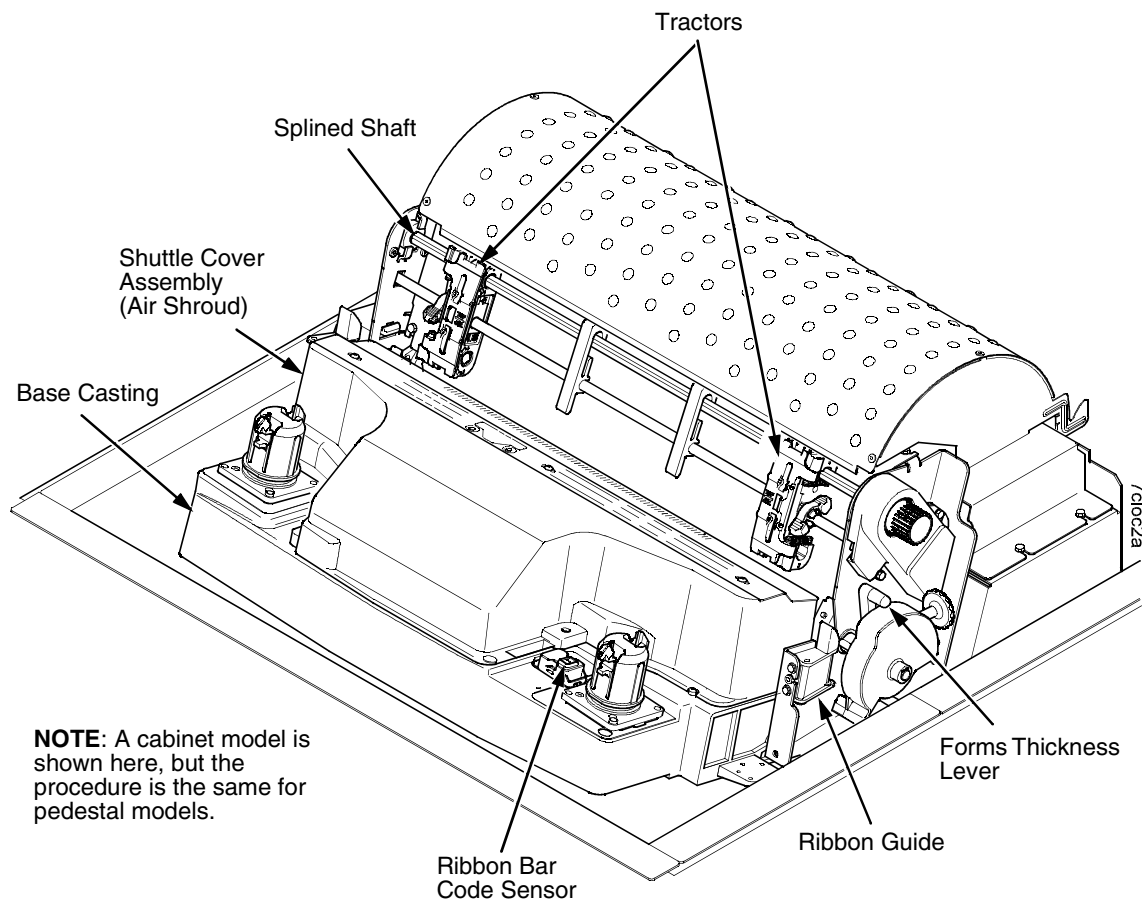

Figure 5. Where to clean inside the cabinet or top cover.
8. Using a soft-bristled, non-metallic brush (such as a toothbrush), brush paper dust and ribbon lint off the tractors, shuttle cover assembly (air shroud), base casting, and ribbon guides. Vacuum up the residue. (Figure 5.)